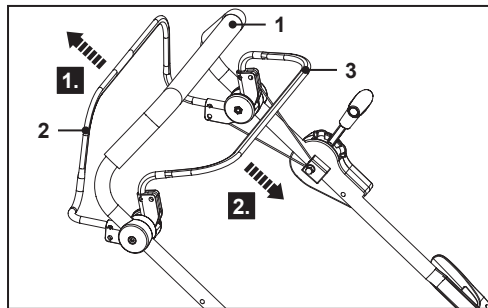

Fig. 26
1. Release the self-propelling lever (2) to stop the self-propelled function (Fig. 26 step 1).
2. Release the brake lever (3) to stop the engine and blade (Fig. 26, step 2).